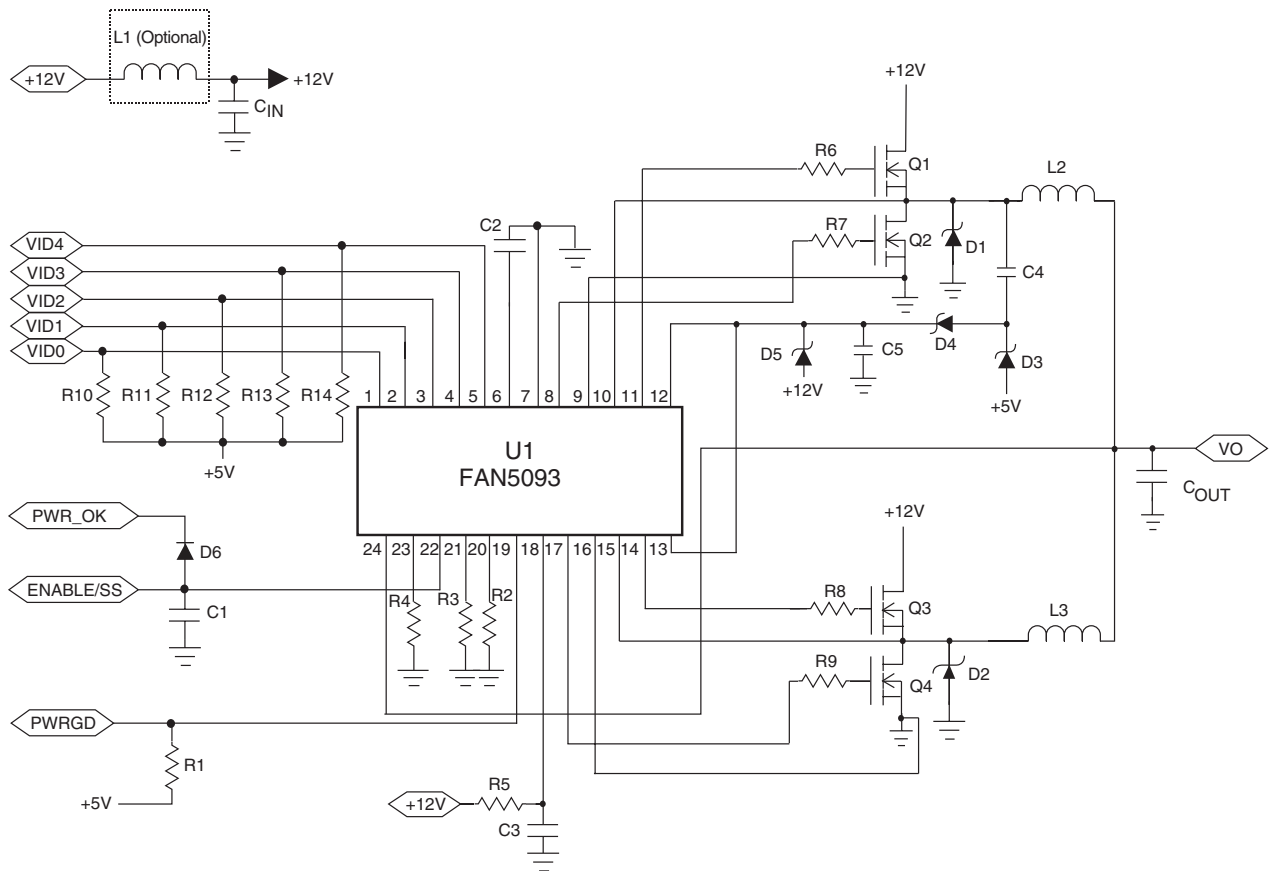

Figure 1. Application Circuit for 1.6V, 35A Athlon Medium-Frequency Application (500 KHz each phase)
**Table 2. FAN5193 Application Bill of Materials for Figure 1**
The FAN5193 contains four high current output drivers that utilize MOSFETs in a push-pull configuration. The drivers for the high-side MOSFETs use the BOOT pin for input power and the SW pin for return. The drivers for the low-side MOSFETs use the VCC pin for input power and the PGND pin for return. Typically, the BOOT pin will use a charge pump as shown in Figures 1–3. Note that the BOOT and VCC pins are separated from the chip's internal power and ground, BYPASS and AGND, for switching noise immunity.